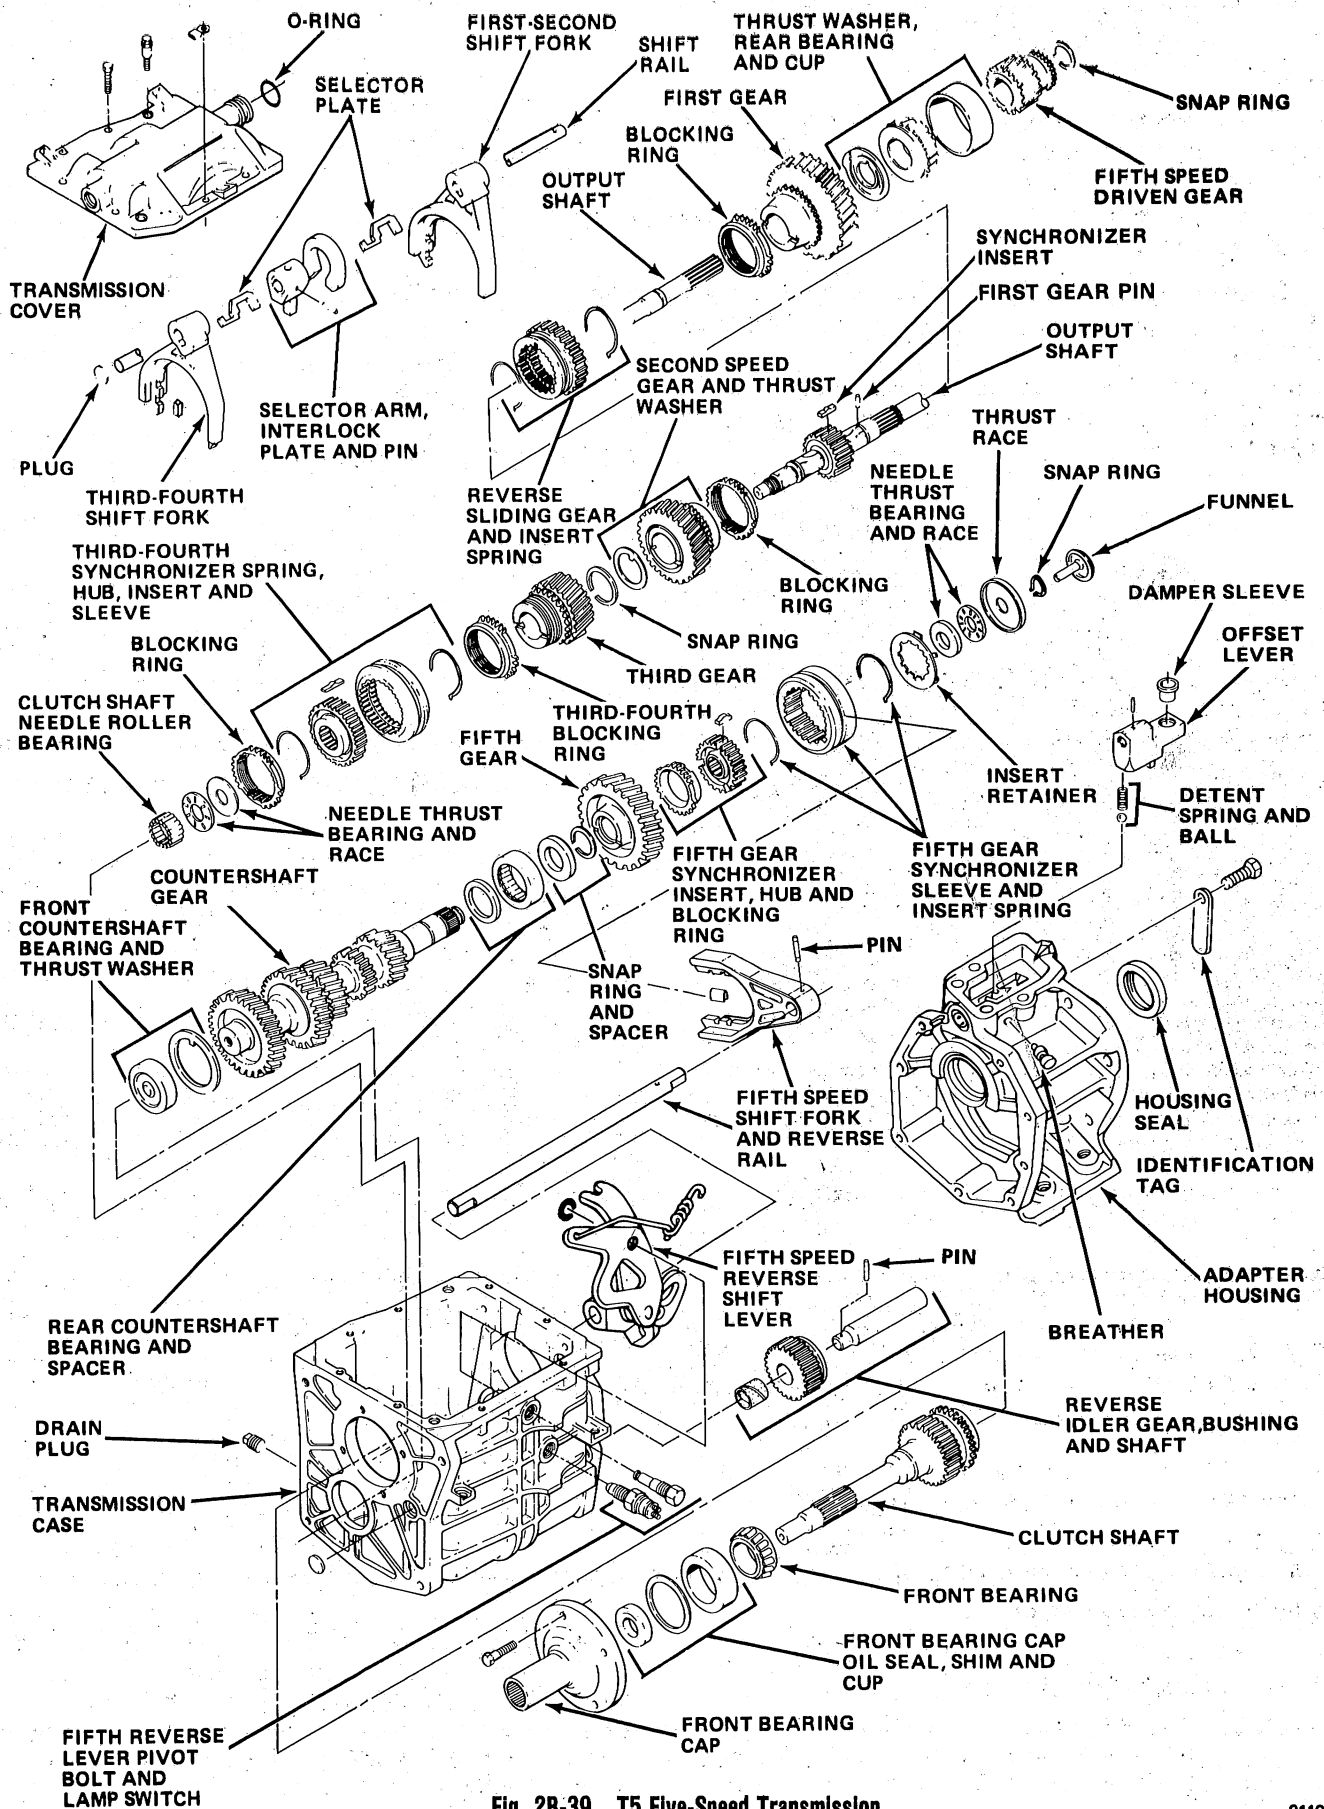

Fig. 2B-39 T5 Five-Speed Transmission
(1) Remove drain bolt on transmission case and drain lubricant (fig. 2B-39).
(2) Using pin punch and hammer, remove roll pin attaching offset lever to shift rail (fig. 2B-5).
(3) Remove adapter housing-to-transmission case bolts and remove housing and offset lever as assembly (fig. 2B-6).